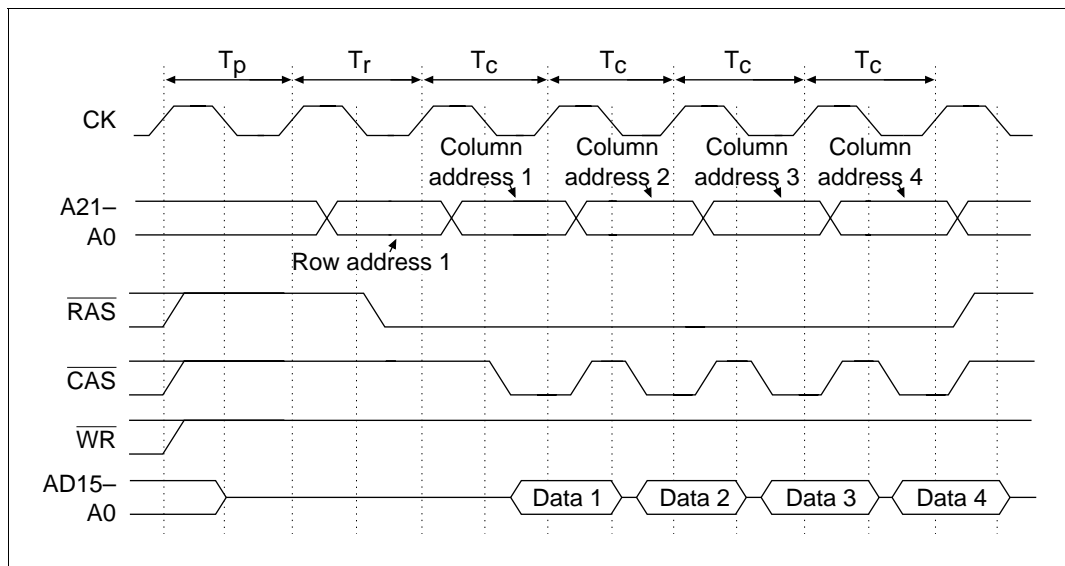

Figure 8.23 Short Pitch High-Speed Page Mode (Read Cycle)
- **Short-pitch, high-speed page mode:** When the RW1, WW1, DRW1 and DWW1 bits in the WCR1 and WCR2 are cleared to 0, and the corresponding DRAM access cycle is continuing, the $\overline{\text{CAS}}$ signal and column address output cycles continue as long as the row addresses continue to match. The column address output cycle is performed in 1 state and the $\overline{\text{WAIT}}$ signal is not sampled. Figure 8.23 shows the read cycle timing for the short pitch high-speed page mode.